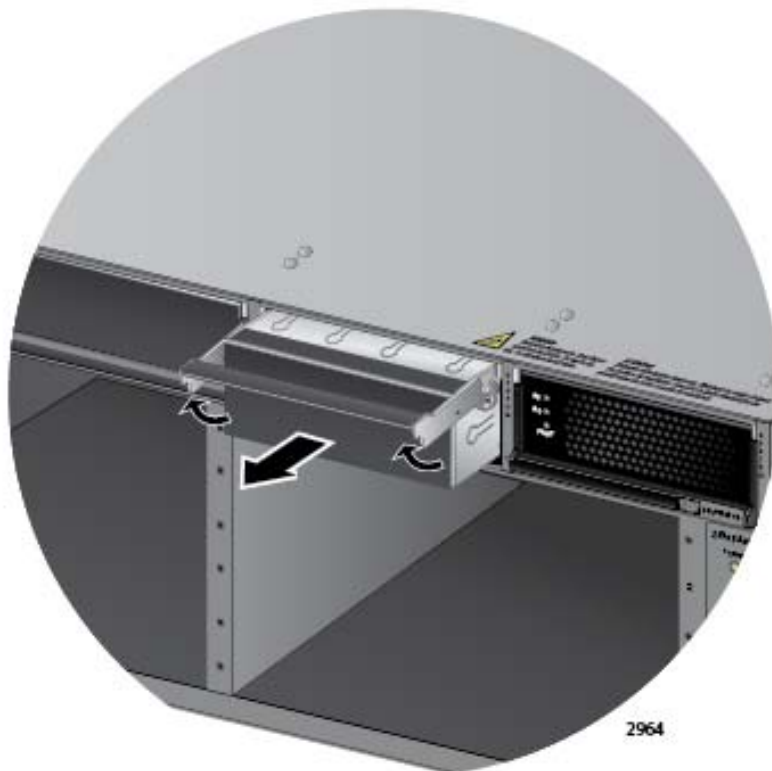

Figure 43. Removing the Blank Slot Cover from Power Supply Slot C
2. If the chassis already has a power supply in slot D, remove the blank power supply panel from slot C by lifting the blank panel handle and sliding it out of the slot, as shown in Figure 43.